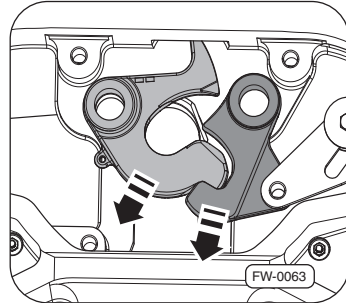

Fig. 34 · Dismantle the lock jaw and lock hook
7. Remove the lock jaw and the lock hook from the fifth wheel plate in the direction of the arrow ⇒Fig. 34.